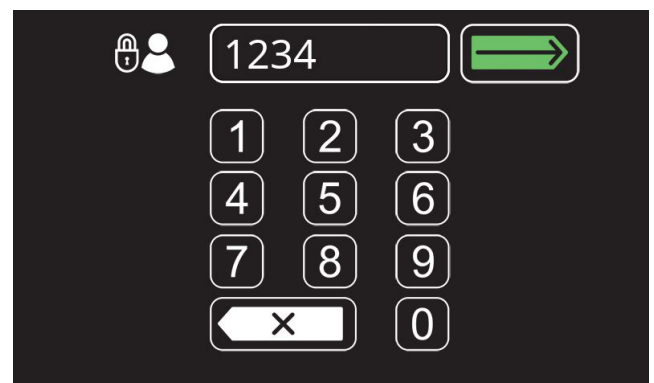

FIG. 165
3. First time use - Enter the factory-assigned supervisor mode login code "1234" then press the green enter button (Figure 165).